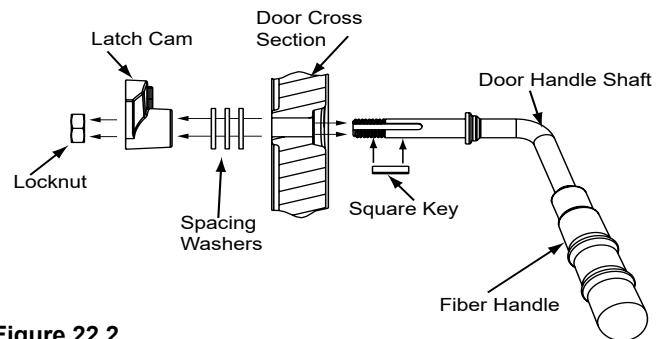

Figure 22.2
2. Install additional washer(s) as shown in **Figure 22.2**
6. Install fiber handle (**Figure 22.2**).